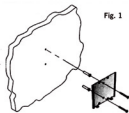

Fig. 1
Securely mount Wall Plate with supplied Wall Screws (4). (Fig. 1)